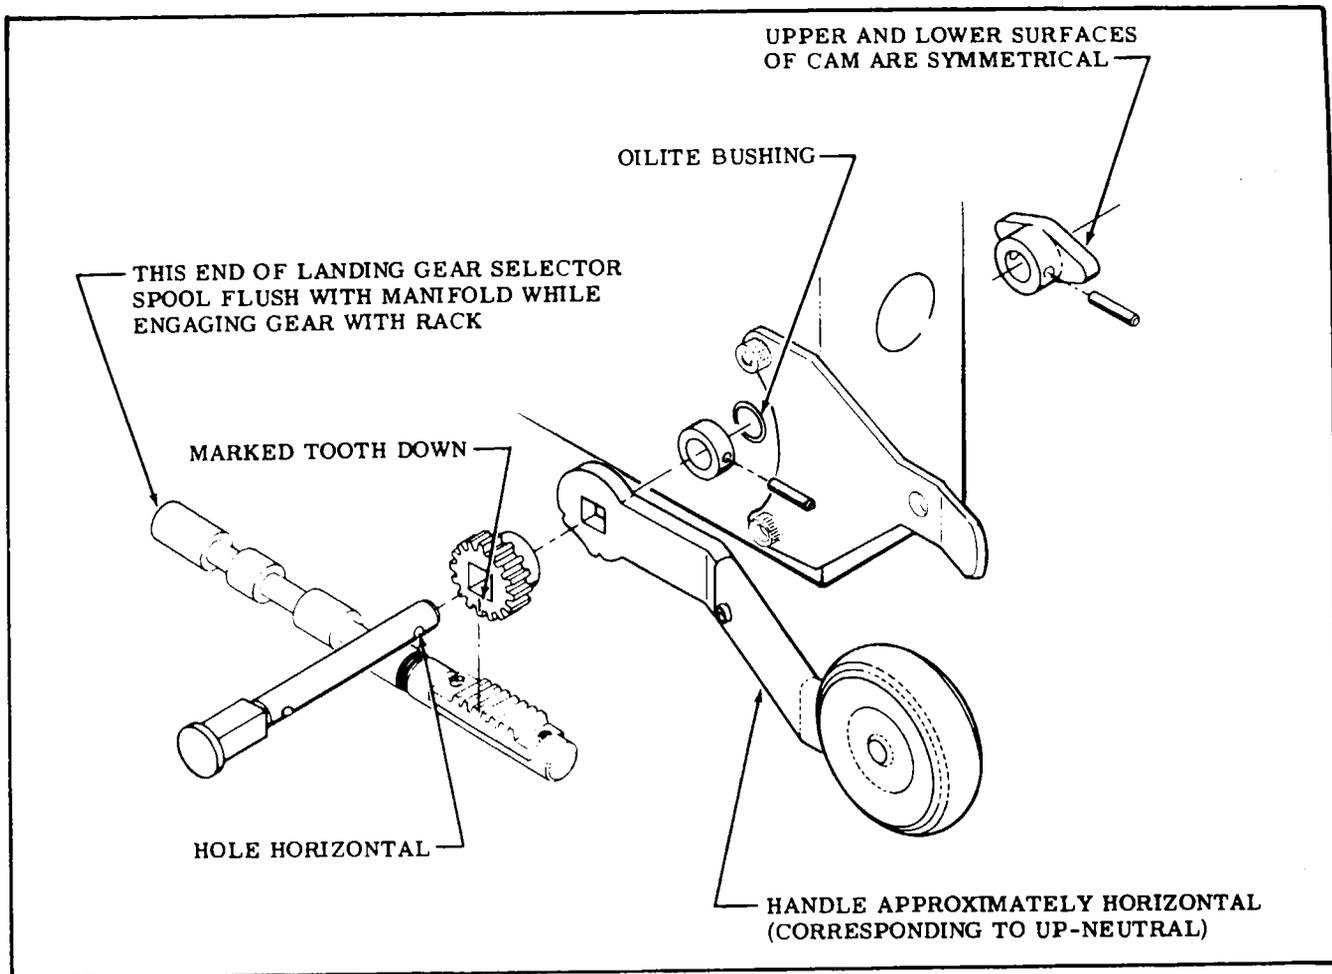

Figure 5-33. Indexing of Landing Gear Handle and Selector Spool
c. If the landing gear handle shaft or gear was removed, the parts must be indexed and assembled as shown in figure 5-33.
When installing manifold, time the landing gear handle assembly to rack on selector spool as shown in figure 5-33. Refer to the following steps if binding occurs.